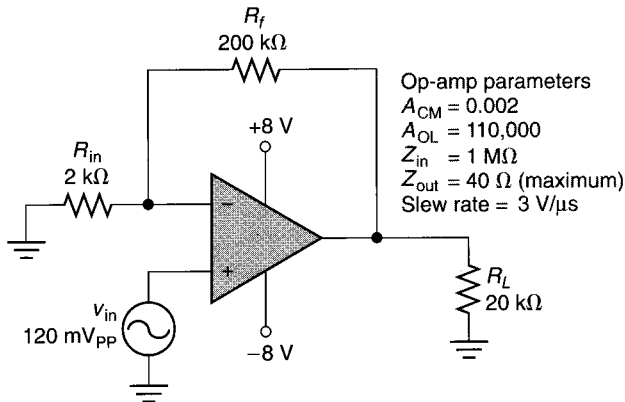

FIGURE 15.61
19. Perform a complete analysis of the amplifier in Figure 15.61.